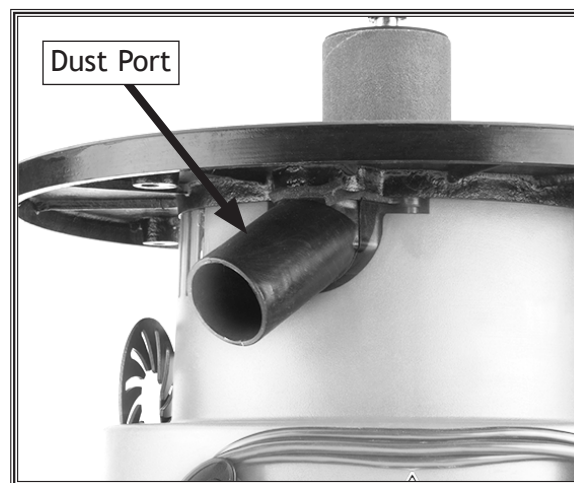

Figure 7. Location to install dust hose.
1. Fit a 2" dust hose over the dust port shown in **Figure 7**, and secure in place with a hose clamp.